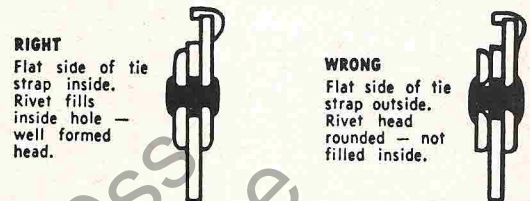

Fig. 20—Countersunk side of tie straps face outward.
**REPAIRING SAW CHAIN.** Individual drive links, cutters, rakers or tie straps can be replaced in a saw chain. Rivets are removed with a chain breaker as shown in Fig. 19. Be sure new parts are of same design and pitch as the removed part. The holes on outside links are countersunk on one side only, and this side should always face outward as shown in the "right" view in Fig. 20. File bottoms of new tie straps or cutters to match worn parts of the chain as shown in Fig. 21. Peen rivets with ball end of ball-peen hammer. Use light blows to peen the rivet; do not crush or flatten it which would result in a cracked rivet or tight joint.